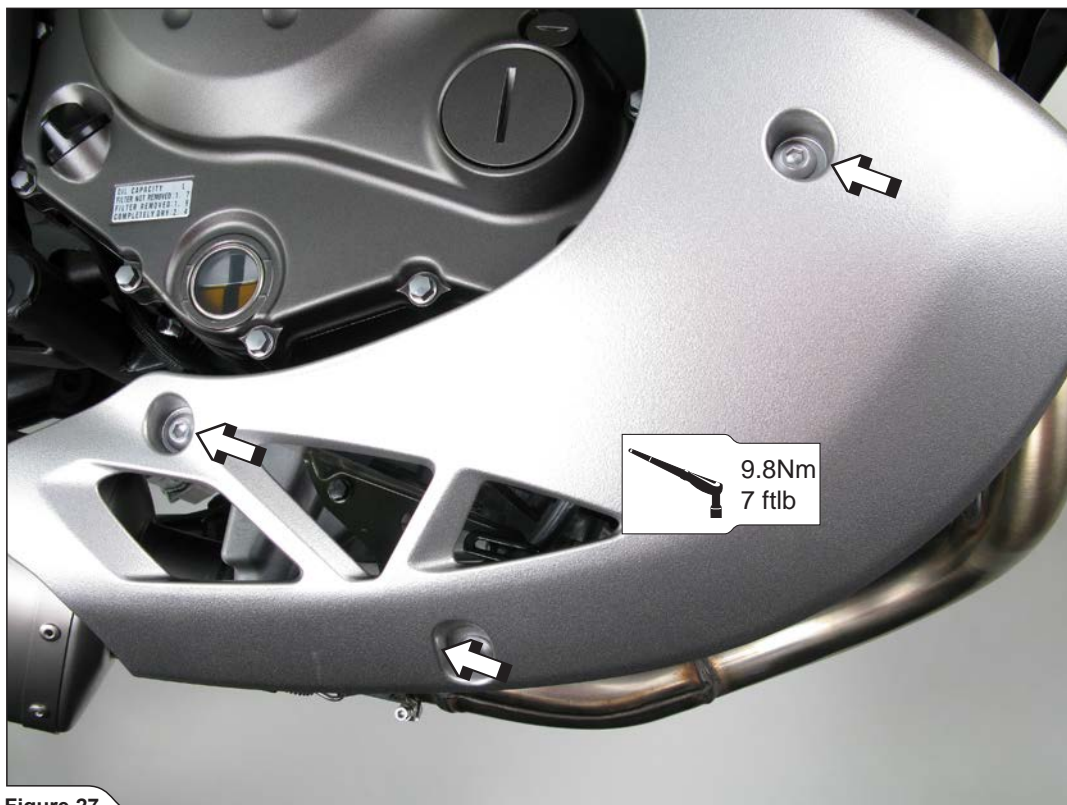

Figure 27
11. **For ER-6 Versys:** Reinstall the lower part of the cowling in the reverse order from the order in which it was removed (**Figure 27**).